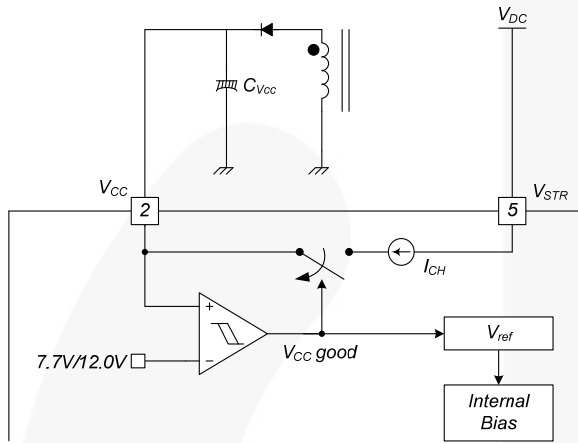

Figure 17. Startup Block
**1. Startup:** At startup, an internal high-voltage current source supplies the internal bias and charges the external capacitor ( $C_{VCC}$ ) connected to the  $V_{CC}$  pin, as illustrated in Figure 17. When  $V_{CC}$  reaches 12V, the FSGM300N begins switching and the internal high-voltage current source is disabled. The FSGM300N continues normal switching operation and the power is supplied from the auxiliary transformer winding unless  $V_{CC}$  goes below the stop voltage of 7.7V.